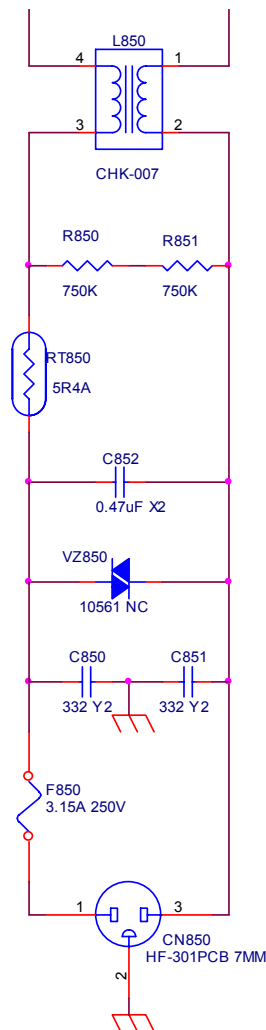

fig.5
2.2.2) AC Input and EMI Filter :(fig.5)